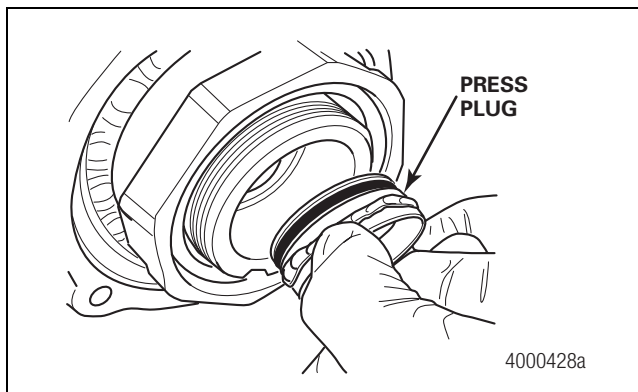

Figure 15
- Insert the press plug into the spindle bore until the plug stops in the bore. Figure 15.